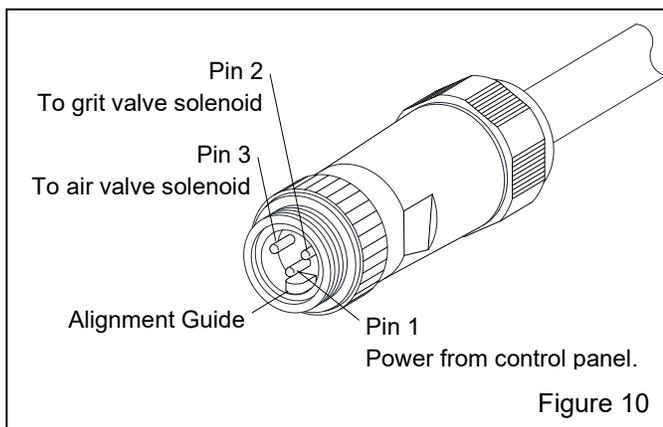

Figure 10
1. Press the ON front pushbutton (closest to the control lever). Press the control lever and check continuity across Pins 1 and 3 in the lo-profile connector, as shown in Figure 10, and again across Pins 1 and 2. If either pin fails the continuity test, the fault is in the RLX lo-profile connector or switch. Check wire connections in the connector, per Section 4.6. If the switch is faulty, the control handle must be replaced.